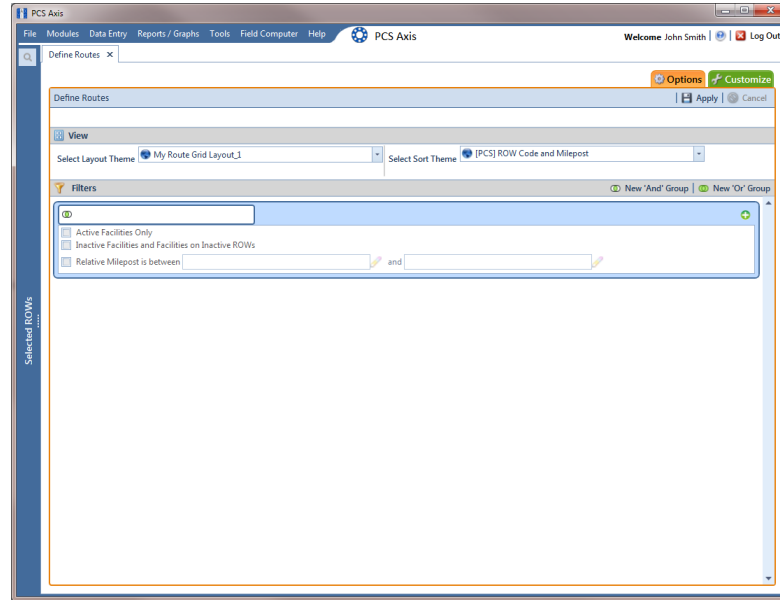

Figure 8-54. Options
- a Click the **Options** tab  to open the options page (Figure 8-54).